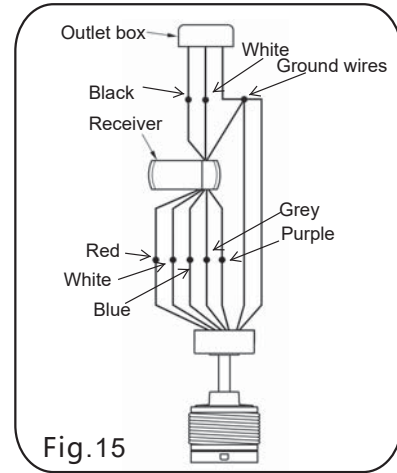

Fig.15
- Step 2: Motor to Receiver electrical connections: connect the WHITE wire from the fan to the WHITE wire from receiver. Connect the RED wire from the fan to the RED wire from the Receiver. Connect the BLUE wire from the fan to the BLUE wire from the receiver. Connect the PURPLE wire from the fan to the PURPLE wire from the receiver. Connect the GREY wire from the fan to the GREY wire from the receiver.(Fig.15)
- Step 3: If your outlet box has a GROUND wire (Green or Bare Copper) connect this wire to the Hanger ball, Hanger bracket and receiver Ground wires. If your outlet box does not have a Ground Wire ,then connect the Hanger ball, Hanger bracket and receiver Ground wire together. Secure wire connection with the plastic wire nut provided.(Fig.15)
- Step 4: Receiver to House Supply Wires Electrical connections: Connect the WHITE wire from the outlet box to the WHITE wire marked "AC in N" from the receiver. Connect the BLACK wire from the outlet box to the BLACK wire marked "AC in L" from the receiver. Secure all wire connections with the plastic wire nuts provided. After all splices are made, check to make sure there are no loose strands. As an additional precaution we suggest to secure the plastic wire connectors to the wires with electrical tape.(Fig.15)